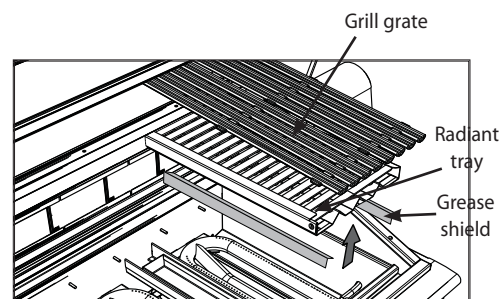

FIG. 51
2. Remove the grill grates, then lift out the radiant trays and grease shields (Fig. 51).